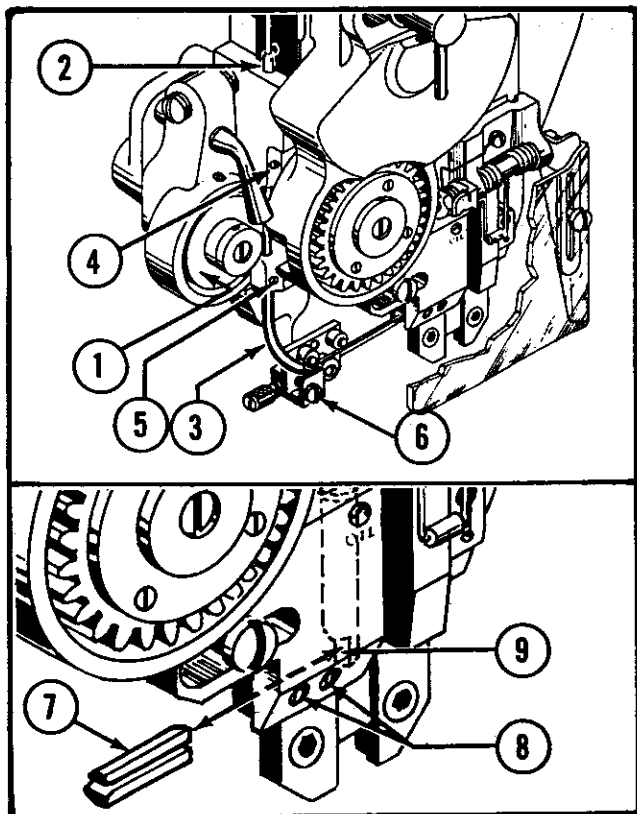

Figure 17—Inspecting Wire Feed Gears, Tubes, and Stationary Cutter
a. WIRE FEED GEARS (See Fig. 17)—The wire feed gears (Fig. 17 shows the left, or idler, gear (1), the right, or drive, gear being located behind the wire feed guard) should be checked for smooth and parallel wire gripping surface. Worn surfaces may result in wire slipping thereby not feeding properly; if surfaces are not parallel, wire may be rolled on one side causing
b. WIRE FEED TUBES (See Fig. 17)—The upper and lower wire tubes, (2) and (3), should be checked for any obstructions in the tube passages which may interfere with free movement of wire. Slots may eventually appear in tube passages, due to normal wear, which will cause the wire to catch and bind, thereby resulting in improper feeding.
c. STATIONARY CUTTER (See Fig. 17)—The stationary cutter (7) should be periodically checked for any obstructions in the wire passage which may interfere with free movement of wire. Check that cutting end is sharp; dull cutter may be resharpened, but eventually must be replaced.